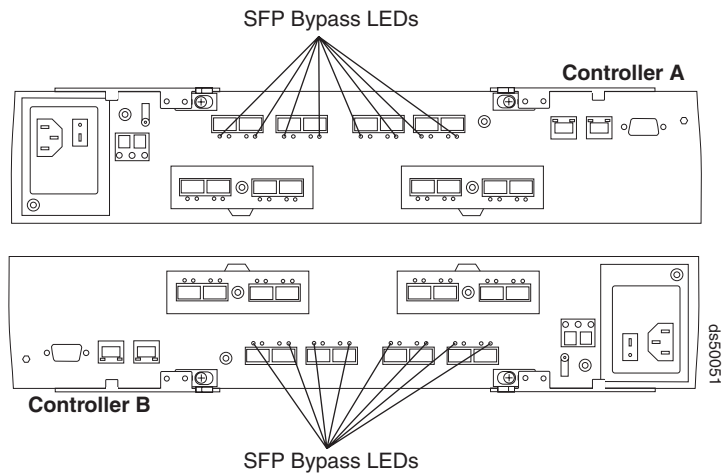

Figure 137. Needs Attention and SFP Model Bypass LEDs
3. Locate the failed SFP module by checking the SFP Bypass LED and Needs Attention LED on the controllers. If a fault is detected, the LEDs are lit. Figure 137 on page 218 shows the location of the controller SFP Bypass LED and Needs Attention LED on the controller.
Figure 137 on page 218 shows the location of the controller SFP+ port Link LED and Needs Attention LED on the controller.